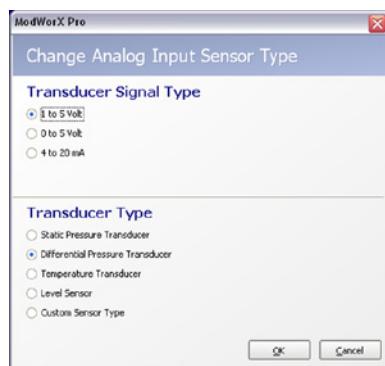

Figure 6.18
1. Enter the output signal type (1-5 V, 0-5 V, or 4-20 mA) and sensor type that best describes the analog instrument connected to the Scanner. The default settings are for a pressure transducer with a 1-5 V output. To change the signal type or the sensor type, click the **Change** button on the Configure Analog Input screen. The Change Analog Input Sensor Type dialog will appear (Figure 6.18). In addition to choosing the signal type, users can select a pressure transducer, temperature sensor, level sensor, or a custom sensor. Click **OK** to save the selection. An Information message will appear, confirming that the analog input has changed.